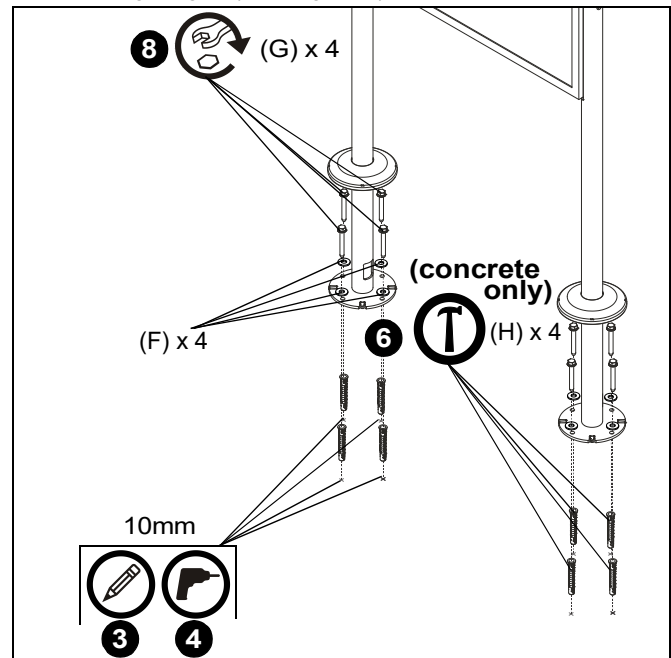

Figure 3
- Using floor post bases (A) as templates, mark four holes at outside hole locations for each column. (See Figure 3)
- Using a 25/64" (10mm) (**CONCRETE**) or a 7/32" (5.5mm) (**WOOD**) drill bit, drill a hole 3 1/2" in depth at each marked location. (See Figure 3) and (See Figure 4)
- Blow each hole clean of any debris with a large air hose or compressed air in a can. (See Figure 3) and (See Figure 4)
- (CONCRETE ONLY)** Use a hammer to install concrete anchors (H) into the drilled holes. (See Figure 3)
- Place each floor post base (A) on top of installed anchors (H) or drilled holes making sure holes on plate are aligned with holes. (See Figure 3) and (See Figure 4)
- Install four 5/16 x 2 1/2" hex head cap screws (G) through 5/16" washers (F) and into four anchors (H) or drilled holes to secure each column base to floor. (See Figure 3) and (See Figure 4)